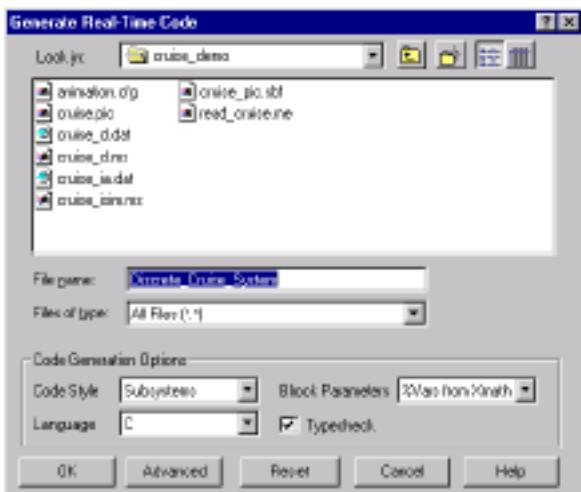

Figure 5-1. Generate Real-Time Code Dialog
4. From the Catalog Browser, select **Tools»AutoCode** to bring up the Generate Real-Time Code dialog (see Figure 5-1).